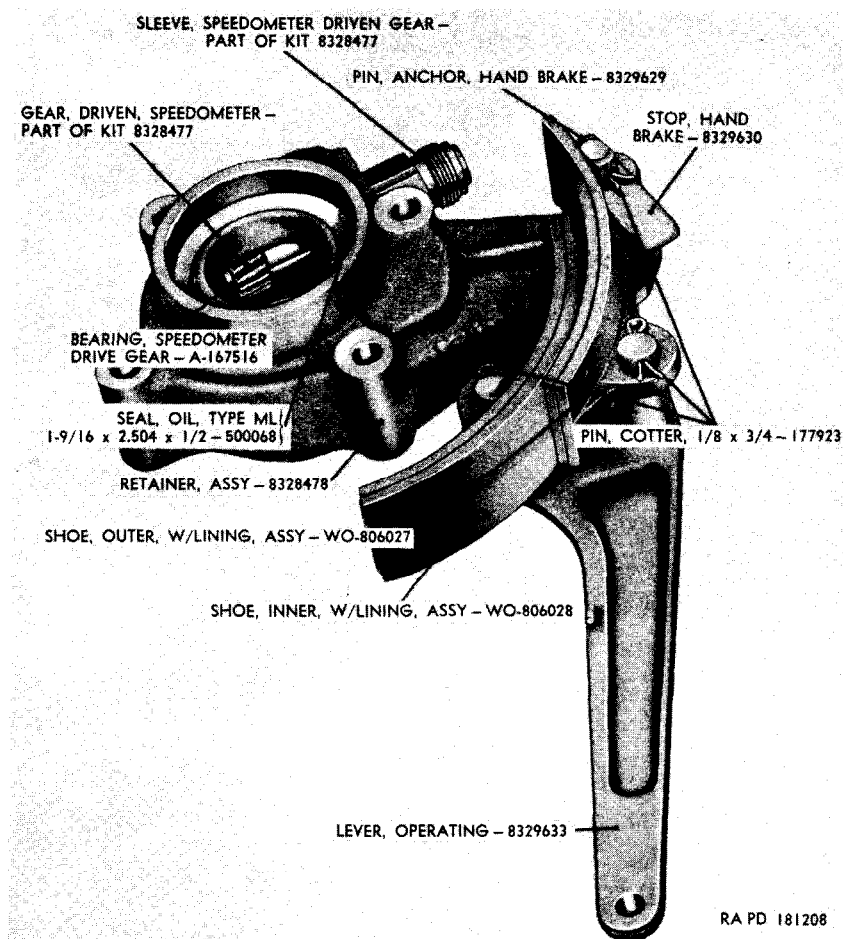

Figure 72. Transfer rear axle output shaft retainer with bearing assembly.
a. *Remove Handbrake Assembly* (fig. 72). Remove the cotter pin, lift the handbrake stop from handbrake anchor pin, and follow by lifting the operating lever and inner and outer shoe assemblies off anchor pin. Remove the two cotter pins which secure the inner and outer shoe assemblies to the operating lever and remove shoe assemblies from lever. Unscrew the plain nut from anchor pin, remove lockwasher, and pull anchor pin from the rear axle output shaft bearing retainer.
b. *Remove Speedometer Driven Gear* (fig. 72). Unscrew the speedometer driven gear sleeve from the rear axle output shaft bearing retainer. Pull the speedometer driven gear from within retainer. Do not remove the speedometer drive gear bearing from the bearing retainer unless inspection (par. 118a) reveals it to be unserviceable. To remove the speedometer drive gear bearing, it is only necessary to pry it out of its recess with a suitable prying tool. Using a suitable removing tool, remove the rear axle output shaft oil seal from the bearing retainer and remove the oil seal gasket.
(fig. 72)
a. Install Speedometer Driven Gear (fig. 72). Install new speedometer drive gear bearing, if necessary, in recess of rear axle output shaft bearing retainer using a suitable replacing tool. Insert speedometer driven gear into retainer. Screw speedometer driven gear sleeve into retainer.
b. Install Handbrake Assembly (fig. 72). Install inner and outer shoes with lining assemblies on operating lever and secure with two $\frac{1}{8} \times \frac{3}{4}$ cotter pins. Install handbrake anchor pin, $\frac{5}{8}$ -inch lockwasher, and $\frac{5}{8}$ -18NF-2 plain nut on rear axle output shaft bearing retainer. Install operating lever and shoe assemblies on anchor pin. Install handbrake stop and secure lever and shoe assemblies with $\frac{1}{8} \times \frac{3}{4}$ cotter pin.